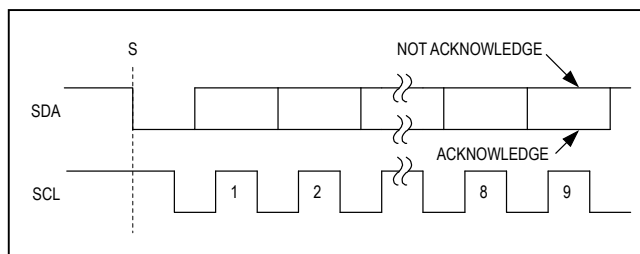

Figure 6. Acknowledge Bits
Data transfers are acknowledged with an acknowledge bit (A) or a not-acknowledge bit ($\overline{\text{A}}$). Both the master and the MAX11606–MAX11611 (slave) generate acknowledge bits. To generate an acknowledge, the receiving device must pull SDA low before the rising edge of the acknowledge-related clock pulse (ninth pulse) and keep it low during the high period of the clock pulse (Figure 6). To generate a not-acknowledge, the receiver allows SDA to be pulled high before the rising edge of the acknowledge-related clock pulse and leaves SDA high during the high period of the clock pulse. Monitoring the acknowledge bits allows for detection of unsuccessful data transfers. An unsuccessful data transfer happens if a receiving device is busy or if a system fault has occurred. In the event of an unsuccessful data transfer, the bus master should reattempt communication at a later time.